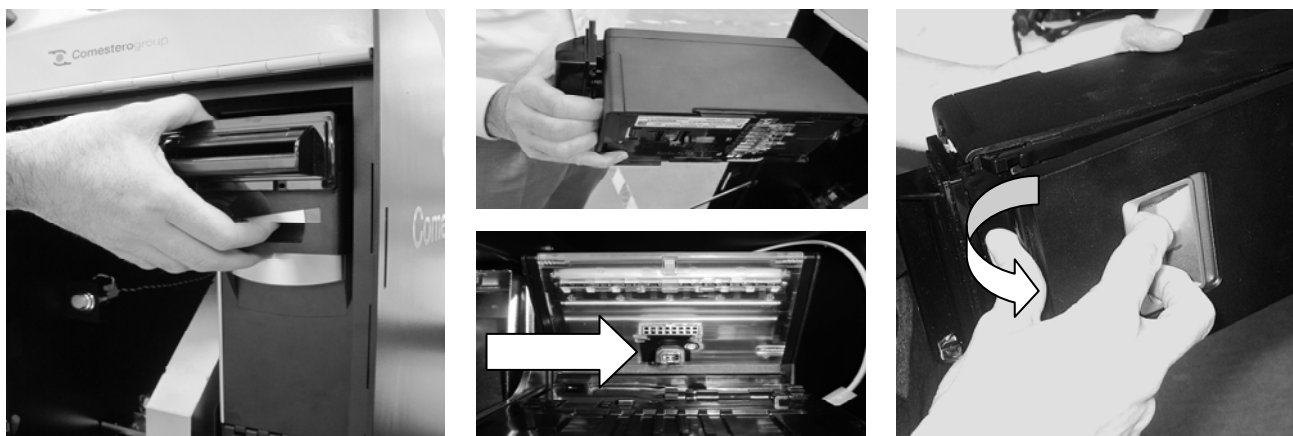

Fig. 10
- Turn the coin change machine off and remove the validator head by pressing the indicated button and pulling outwards. Make sure there are no banknotes jammed inside the head or inside the transparent part of the recycling device (fig.10).